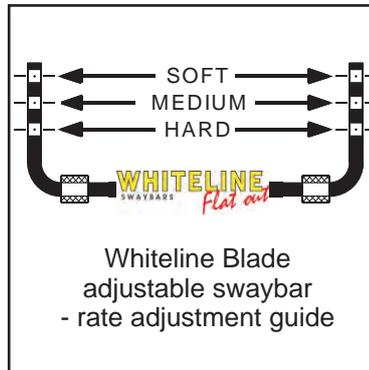
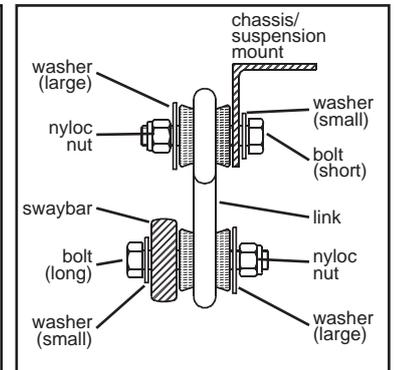

Figure 1.
Figure 2.
6. Using remaining hardware, connect the swaybar to the endlinks, as shown in photo 4 and figure 2. Refer to figure 1 for swaybar adjustment guide.